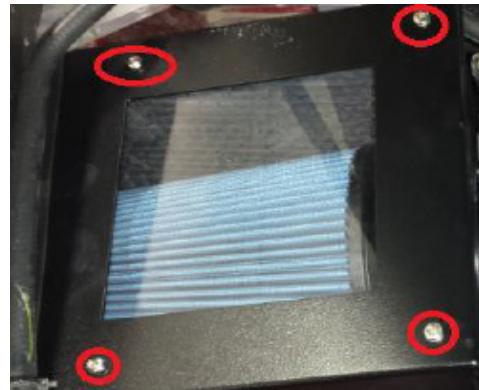

Figure 8
- Peel protective paper from airbox lid and install airbox lid using attached quarter-turn fasteners circled in figure 8.